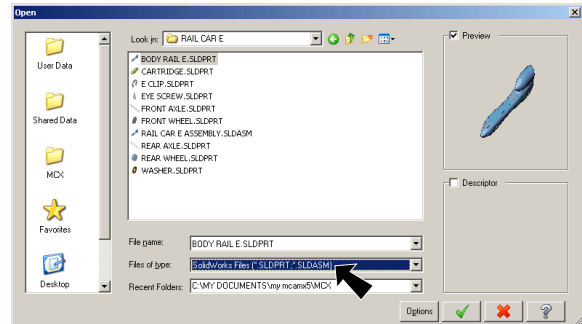
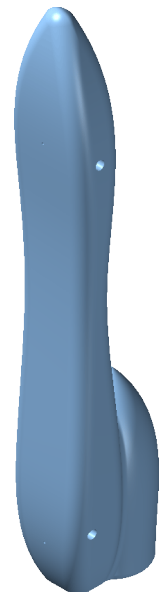

Fig. 1
Fig. 2
Step 3. In the Open dialog box set **Files of type** to **SolidWorks Files**, select your BODY RAIL E file, **Fig. 1**. Click OK  **Fig. 2**.